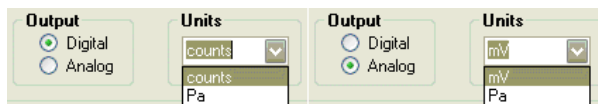

Figure 11: Selecting the units of measurement for either the digital (left) or the analog (right) output.
1. The *Settings* panel is used to configure the experimental setup. One or two sensors may be used simultaneously; either the digital or analog output may be selected. In each of these cases, the output of the sensor(s) may be presented in either counts (digital) / millivolts (analog), or Pascals (both digital and analog), as shown in Figure 11.